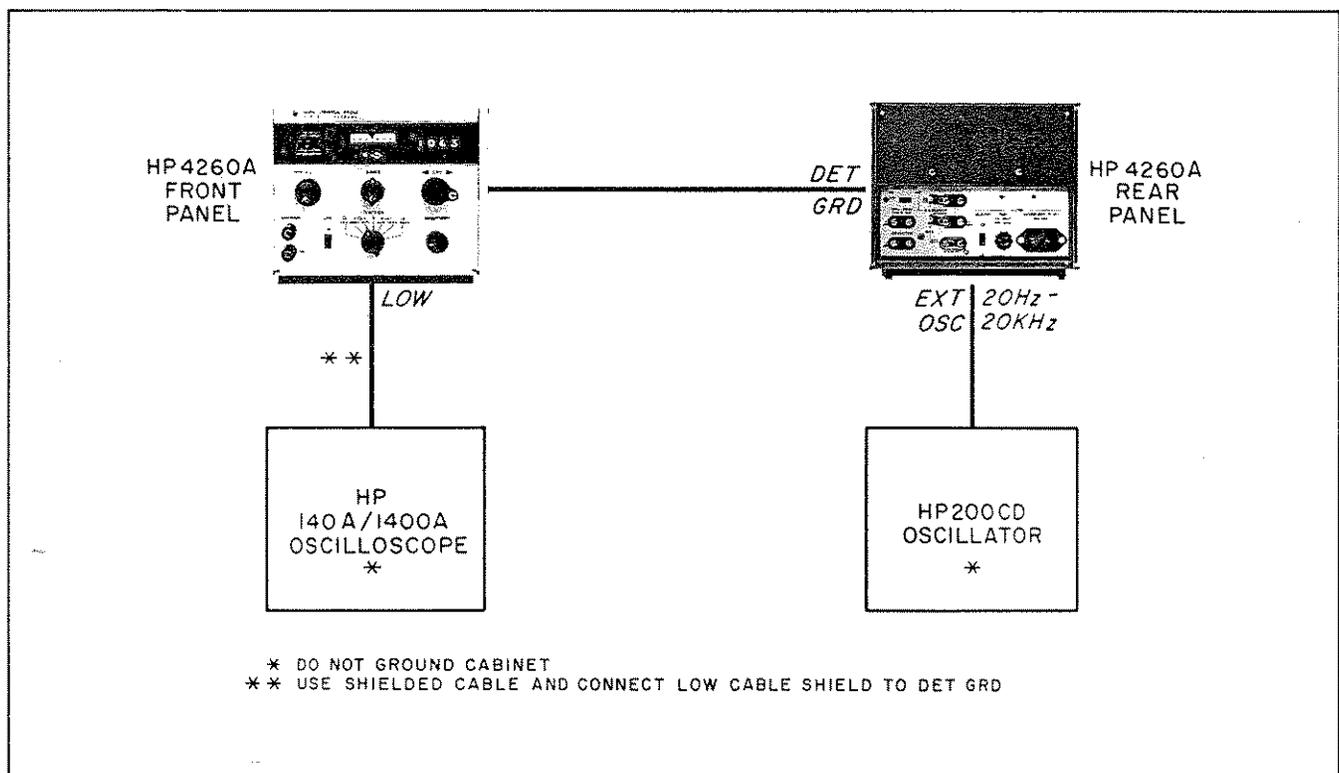

Figure 5-5. Test Setup for Adjustments
5-30. INTRODUCTION. The procedures in Paragraphs 5-31 through 5-38 outline checks and adjustments for the components in the bridge circuit. These include fixed 0.2  $\mu$ F capacitor C1, compensating capacitor C305, CRL resistor R3, trimmers C103, C104, C3, and accuracy of resistors in the RANGE switch. The test equipment setup is shown in Figure 5-5. These checks and adjustments should be performed in the order listed when a comprehensive over-all instrument checkout is desired. Test equipment for these checks is listed in Table 5-6.
5-31. C1 CHECK. To check fixed bridge capacitor C1, connect the instruments as shown in Figure 5-5.
a. Connect the test setup as shown in Figure 5-5.
a. Connect test equipment setup as shown in Figure 5-5.
- a. Connect test equipment as shown in Figure 5-5.
- a. Connect test equipment setup as shown in Figure 5-5.
- a. Connect test setup as shown in Figure 5-5.